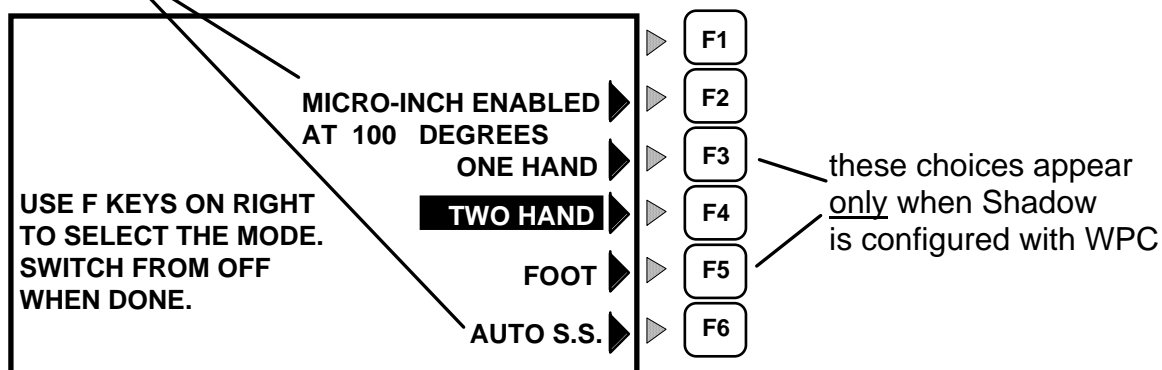

Figure 6-14. Mode Select menu
If you set the Micro-inch angle to some angle position *other than* 185° (where normal inching resumes), you will see "Micro-inch" displayed on the Mode Select menu in Run mode (Figure 6-14). By pressing the designated function key you can disable or enable Micro Inch when running the press in INCH. For details on Micro-inch, refer to the section "Setting Micro-Inch Time and Angle" in Chapter 4 of this manual.
1. Make sure that SmartPAC's "Program/Run" key is set to the "RUN" position, and set the Stroke Selector Switch to the "OFF" position. You will see the Mode Select menu (Figure 6-14).
To operate the press in TWO HAND/CONT Mode, set the Mode Select menu to TWO HAND by pressing the designated function key (Figure 6-14). Then depress the PRIOR ACT switch on the operator station.
Set the Mode Select menu to FOOT by pressing the designated function key (Figure 6-14), and then press the PRIOR ACT switch on the operator station. While the PRIOR ACT LED is lit (for eight seconds), depress the foot switch.
2. Make sure that SmartPAC's "Program/Run" key is set to the "RUN" position, and set the Stroke Selector Switch to the "OFF" position. You will see the Mode Select menu (Figure 6-14).